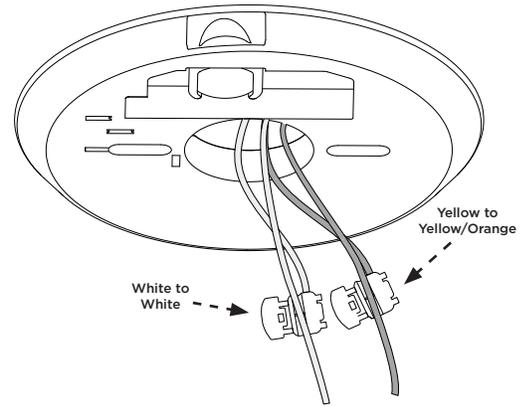

Figure 2: Wiring Diagram
1. Place the yellow wiretap over the yellow or orange signal wire and crimp it in place using pliers. See Figure 2.